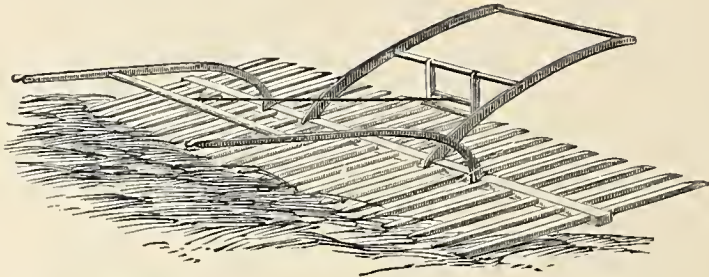

Fig. 384.—Revolving Horse Hay-Rake.
**The Revolving Horse Hay-Rake**, represented by *Fig. 384*, is one of the simplest and cheapest in use, and is a good labor-saving implement. It has a double row of teeth pointing in opposite directions. When the hay is collected to the wind-row,